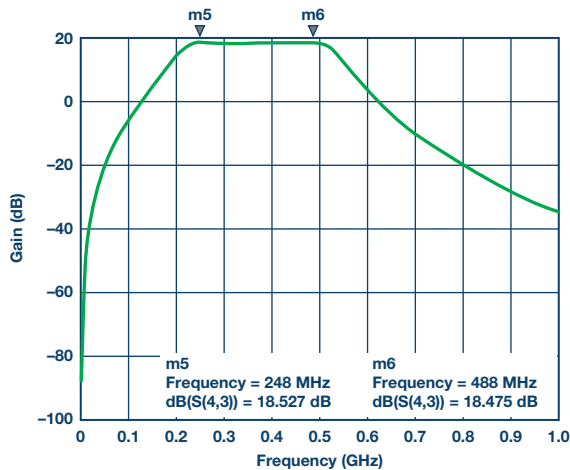

Figure 20. Filter transmission response with ideal inductors.
5. The simulation results with ideal components are shown in Figure 20.